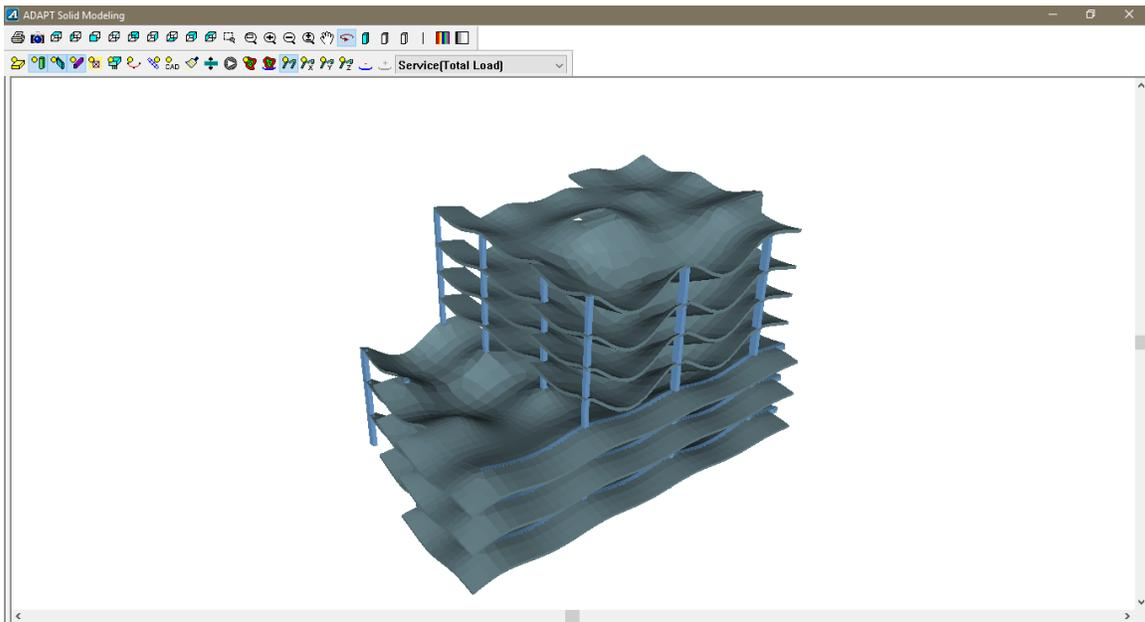

Figure 6-13
- If we now click on the *Solid Modeling Global Deflection Contour*  icon we can see the global deflection of the structure as shown in **FIGURE 6-13**. The global deflection shows the X, Y, and Z direction deflections all at once.